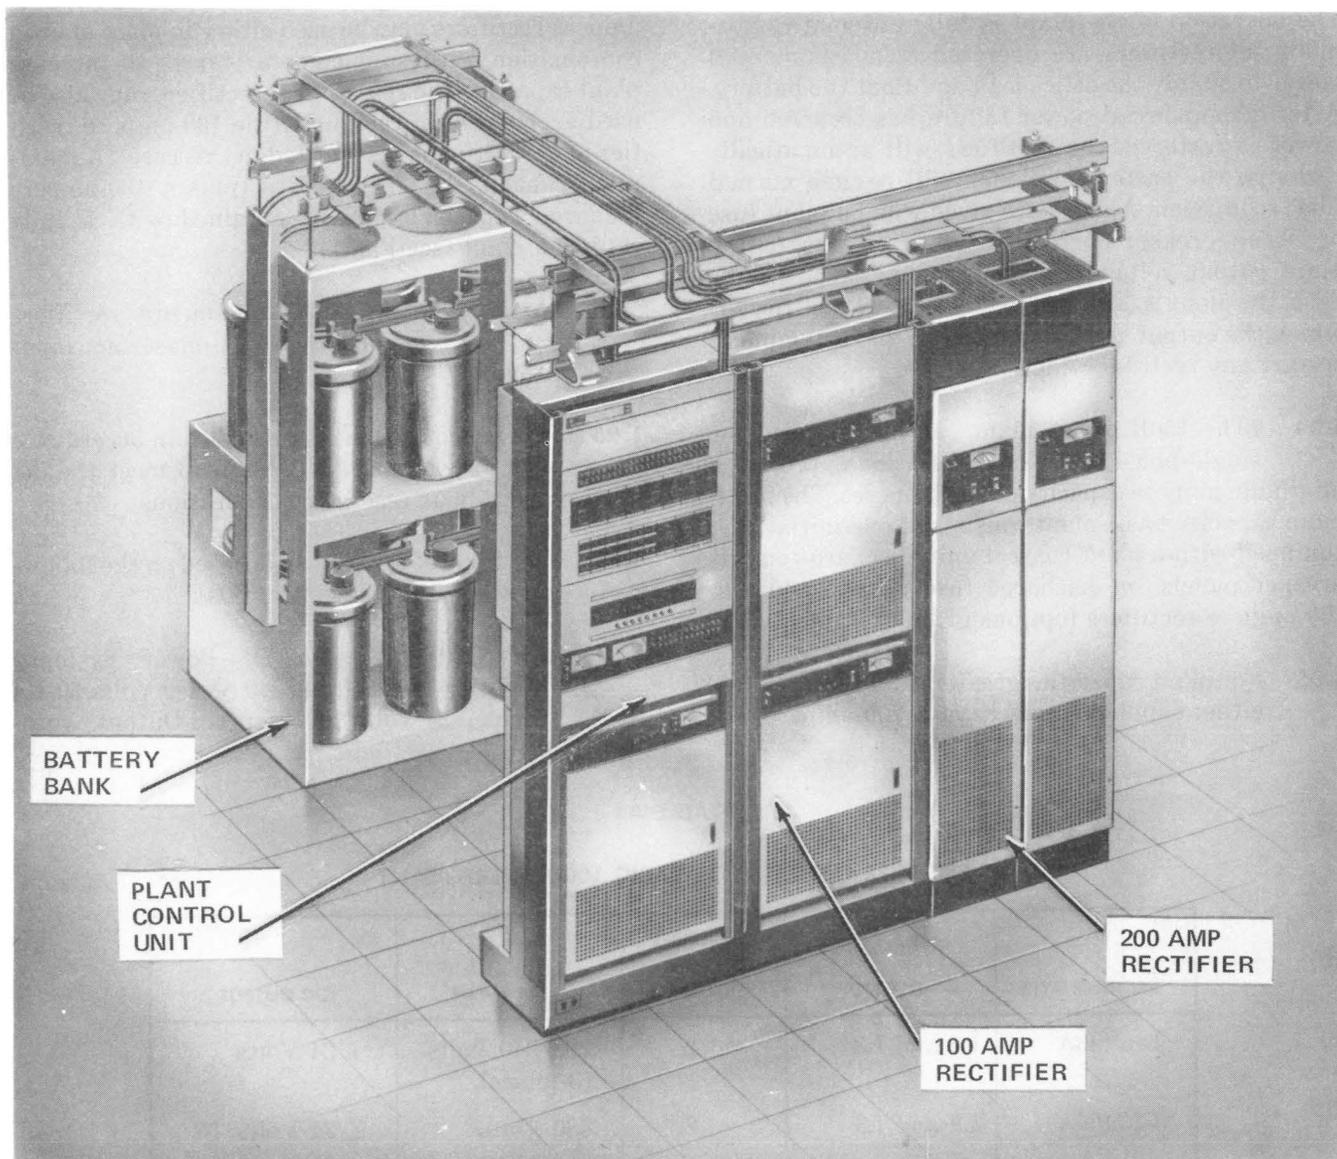
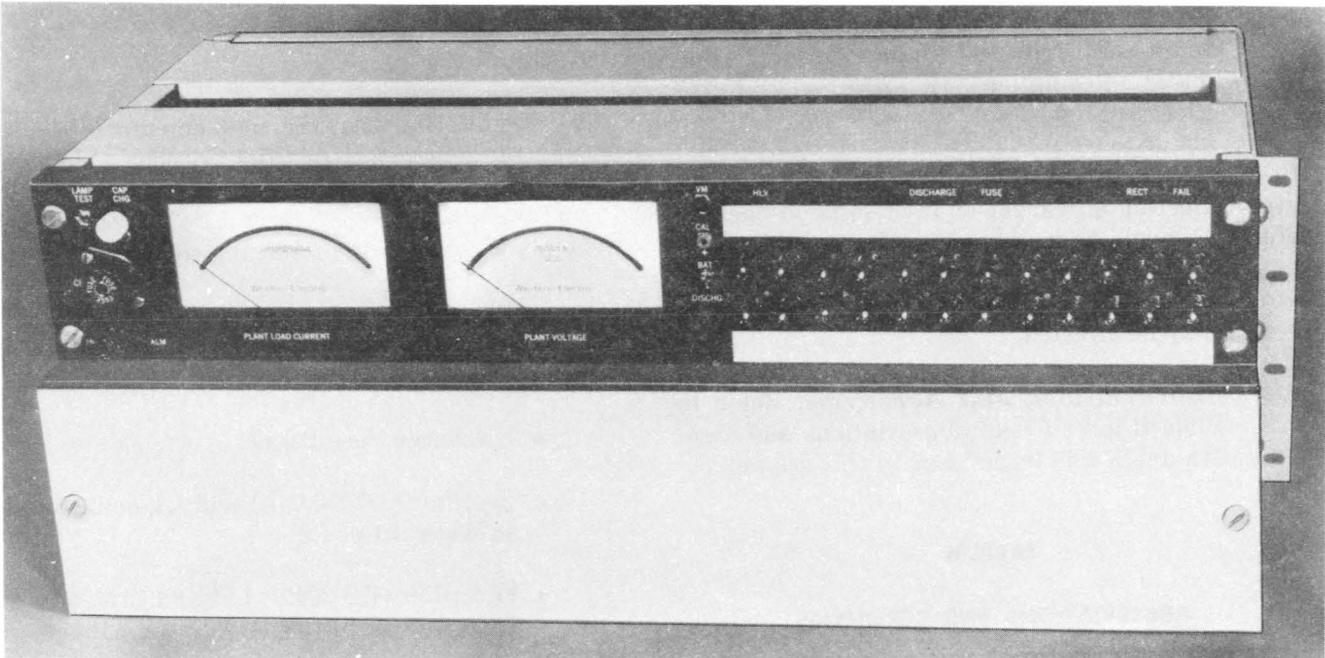

Fig. 1—150B Power Plant
Fig. 2—J85516A, L1 and L3, Plant Control Unit
tifiers can be provided. The J87438A, L1 or L2, 200-ampere rectifiers may be used either in place of or in combination with supplementary bays to increase plant capacity. The 200-ampere rectifiers may also be used exclusively in the plant (the 100-ampere rectifier in the initial bay is omitted in this case). A maximum capacity of 600 amperes (plus a 100-ampere recharge capacity) may be obtained with a fully equipped plant (see Fig. 1).
**2.01** The initial bay, the supplementary bay, and the 200-ampere rectifier are each a single bay framework (Fig. 1).
**2.02** The plant control unit mounts in the initial bay between the rectifier and the circuit breaker panel (Fig. 1). On the front panel of the control unit are the plant ammeter, the plant voltmeter, the alarm indicator LEDs, and a control fuse panel using 70-type fuses (Fig. 2). Table C gives a complete list of controls, indicators, and fuses on the control unit. Located inside the control unit are the plant voltage monitor and plant alarm circuits mounted on a printed wiring board (WC1 or ♦WC2♦ circuit pack). The board plugs into a printed wiring motherboard which provides a terminal field for rectifier control and plant alarm connections.
**2.03** The J87436A, 100-ampere rectifier mounts in a standard equipment bay (Fig. 1). The J87438A, 200-ampere rectifier is a self-contained bay (Fig. 1). Both rectifiers are designed to be serviced and maintained exclusively from the front.